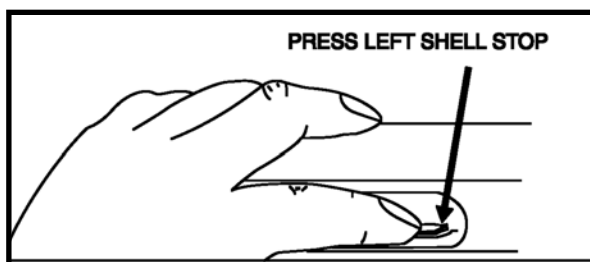

Figure 1
*Remington:* Depress and hold the left shell stop. (Fig. 1)